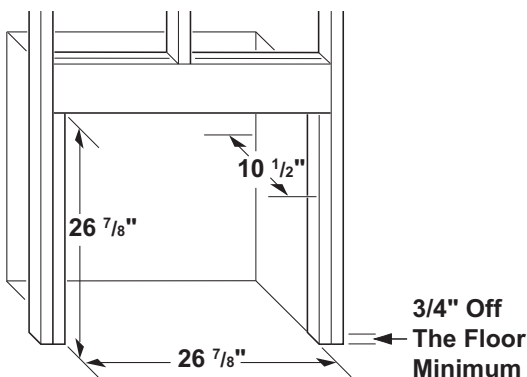
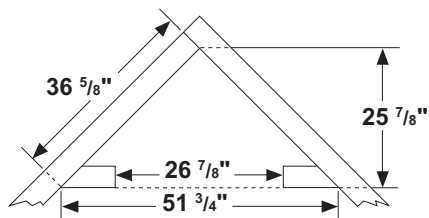

Figure 7 - Rough Opening for Installing in Wall
Figure 8 - Rough Opening for Installing in Corner
1. Frame in rough opening. Use dimensions shown in *Figure 7, Page 12* for the rough opening. If installing in a corner, use dimensions shown in *Figure 8, Page 12* for the rough opening. The height is 26-7/8" which is the same as the wall opening above.